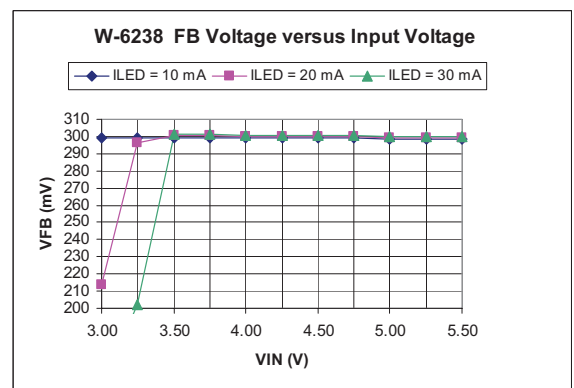

Figure 5.  $V_{FB}$  voltage Line Regulation
- Observe the value of  $I_{LED}$  measured by the current meter and  $V_{FB}$  using a voltmeter. Figure 4 presents the  $I_{LED}$  current versus  $V_{IN}$ . Figure 5 shows the W-6238 FB voltage versus input voltage.